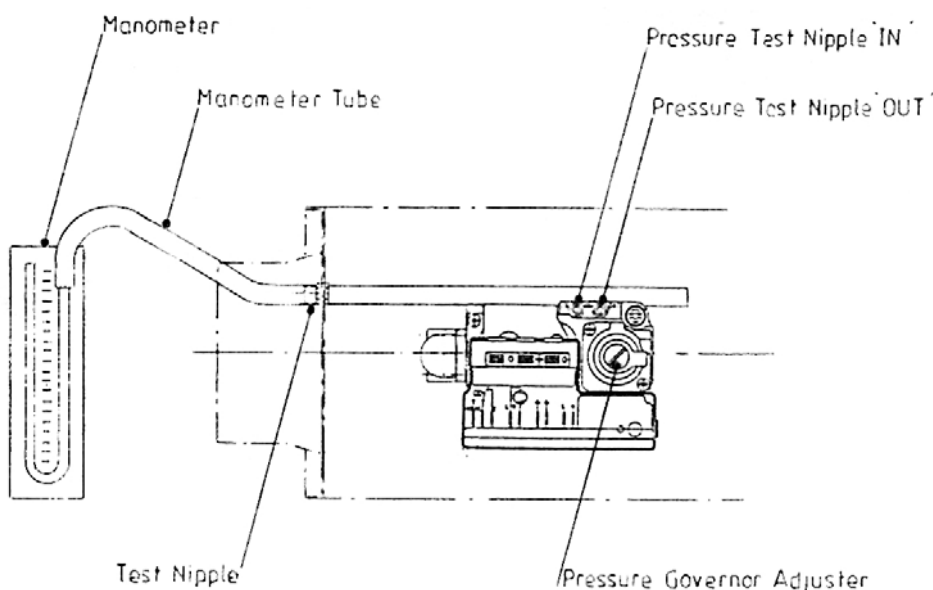

Fig. 26
- 5.3.2 Connect a manometer to the test nipple protruding from the rear panel of the Control Box (adjacent to the Air Inlet Adaptor) see Fig. 26.
- 5.3.4.1 Unscrew the sealing screw (two turns) of the Control Valve test nipple marked 'IN' and connect the free end of the manometer tube (permanently connected to the manometer test nipple inside the rear panel of the control box) to this test nipple (See Fig. 26). Close the control box door and secure with the two toggle latches.
5.3.5.1 Unscrew the sealing screw (two turns) of the Control Valve test nipple marked OUT and connect the free end of the manometer tube (permanently connected to the manometer test nipple inside the rear panel of the control box) to this test nipple (See Fig. 26). Close the control box door and secure with the two toggle latches.
5.3.5.3 In the event that the burner setting pressure is incorrect, switch off the electricity supply to the appliance and remove the cap from the integral pressure governor for the Control Valve. Close the control box door and switch on the electricity supply to the appliance to ignite the burner. Remove the plug from the boss in the upper surface of the control box door and insert a suitable screwdriver through the exposed hole in the box to locate the governor adjusting screw. Adjust the pressure by turning the pressure governor adjusting screw clockwise to increase or anti-clockwise to decrease the burner setting pressure. See Fig. 26.